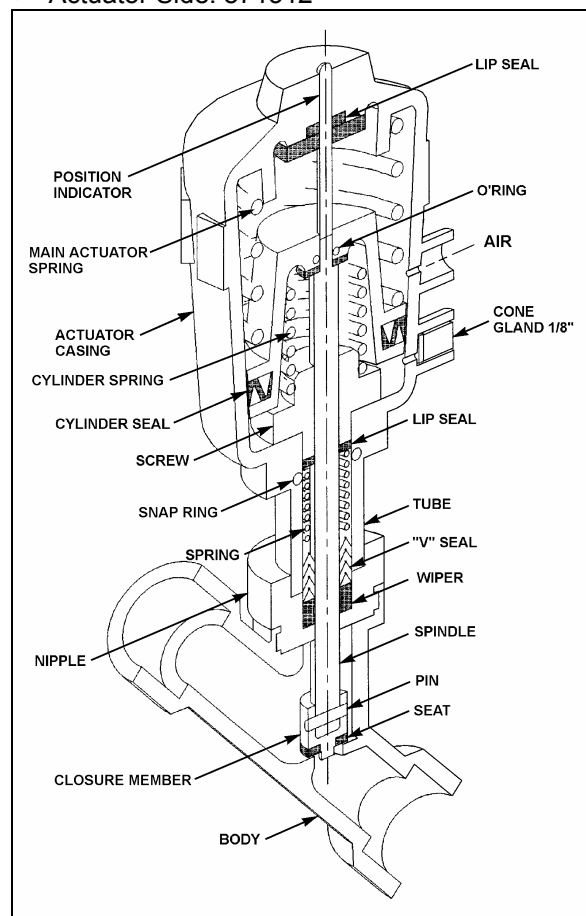

FIGURE 52: PASSENGER'S UNIT HOT WATER PNEUMATIC VALVE
2. The water valve need not be removed from the line. Unscrew nipple, the actuator casing, tube, spindle and closure member can be removed (Figure 52).
2. Tighten the nipple in place in the body cavity as per Figure 52. Fasten pilot solenoid valve to the pneumatic water valve. Reconnect air supply pressure and electrical current to the pilot solenoid valve.